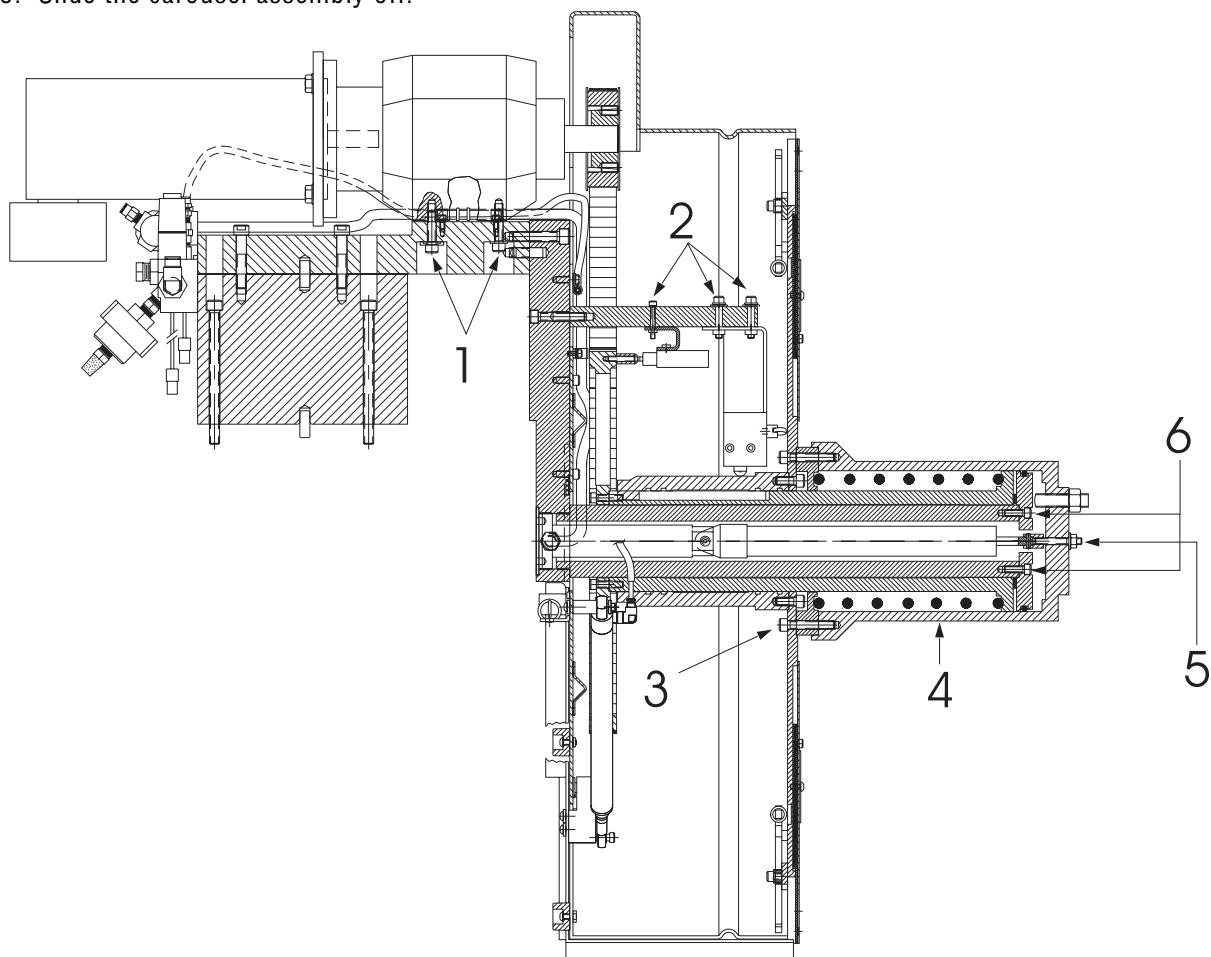

Figure 3-20. Carousel replacement.
6. Remove the four SHCS that mount the gearbox to the top mounting plate. (Fig. 3-20 #1)
8. Remove the four SHCS that secure the (2) switch brackets and place them clear of the large pulley (Fig. 3-20, #2).
11. Remove the six SHCS that mount the cylinder cap to the carousel. (Fig. 3-20, #3)
12. Remove the hex nut that attaches the shock absorber to the cylinder cap (Fig 3-20, #5)
14. Remove the six SHCS that attach the locking cap to the shaft assembly(Fig 3-20, #6)
4. Install the locking cap. (Fig. 3-20, #6)
6. Install the shock absorber nut. (Fig. 3-20, #5)
7. Install the six SHCS that attach the cylinder cap to the carousel. (Fig. 3-20, #3)
10. Install the switch bracket and four SHCS. (Fig. 3-20, #2)
12. Install the four SHCS that mount the gearbox to the top mounting plate. (Fig. 3-20, #1)